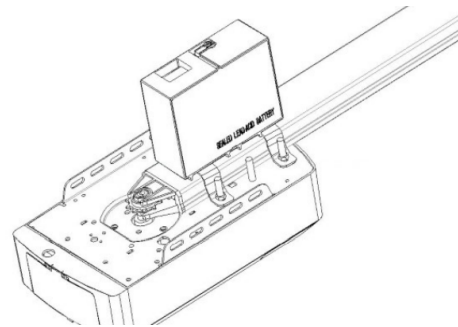

Figure 12
STEP 2 (Fig.12)
Join the battery to the opener, find the Fig.12